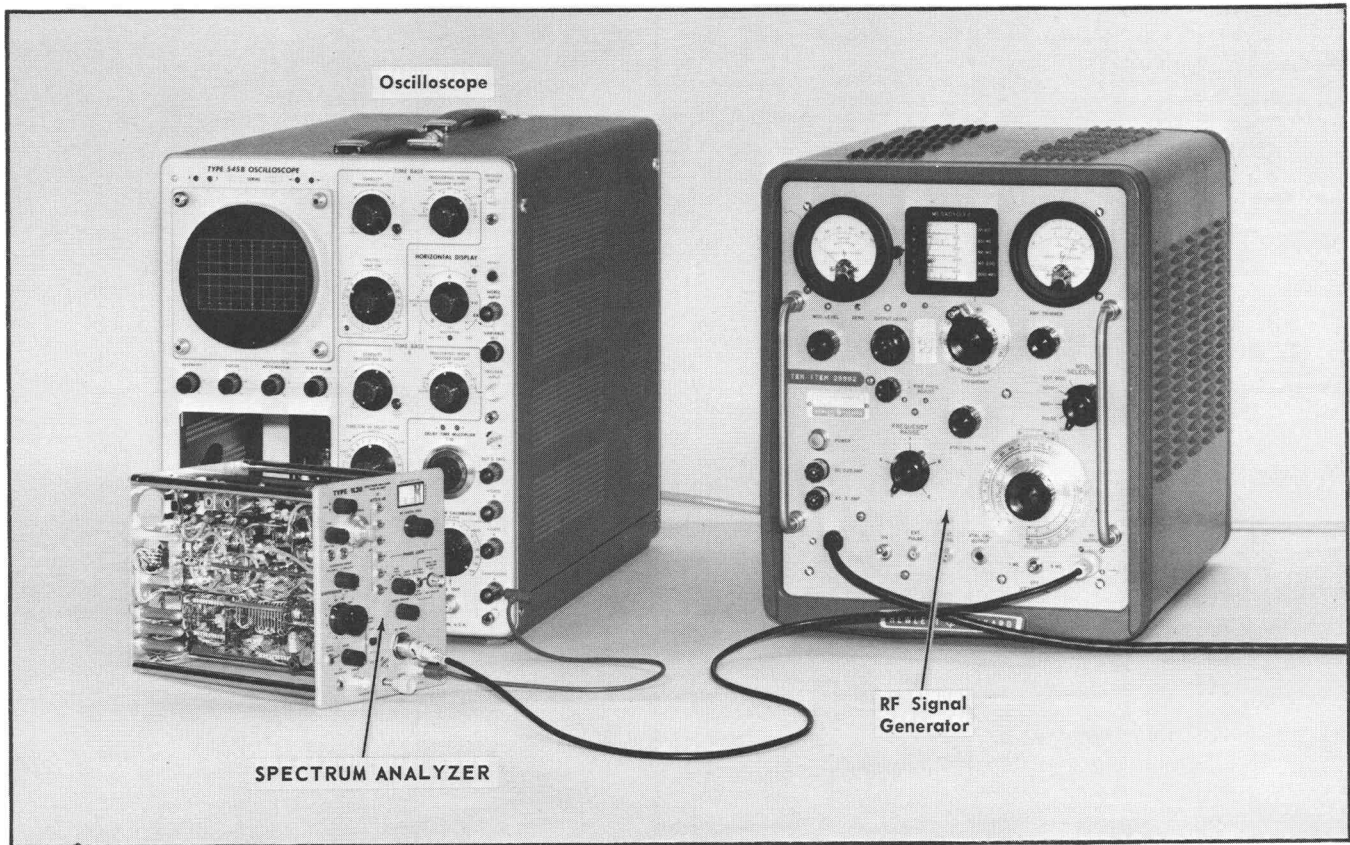

Fig. 6-18. Setup for checking Display Flatness Sensitivity, Dynamic Range, and IF Attenuator Accuracy (Steps 11 through 14).
a. Set up the equipment as shown in Fig. 6-18. Terminating the 50 ohm coaxial cable at the RF INPUT connector with a 50 ohm 10:1 (20 dB) termination.
a. Connect the equipment as shown in Fig. 6-18.
- a. Connect the equipment as shown in Fig. 6-18.
- a. Set up the equipment as shown in Fig. 6-18.